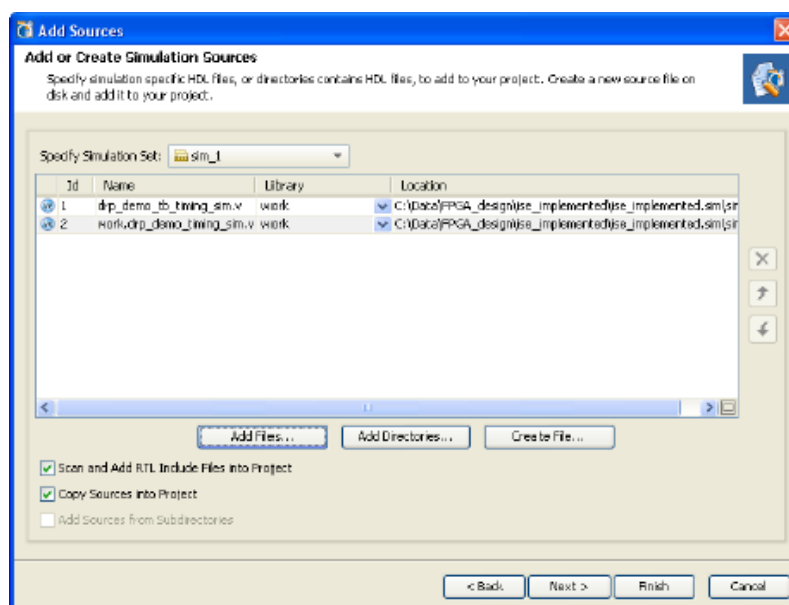

Figure 3-24: Add Simulation Sources
2. Select **Add or Create Simulation Sources**, and click **Next**. The Add or Create Simulation Sources dialog box opens as shown in Figure 3-24.